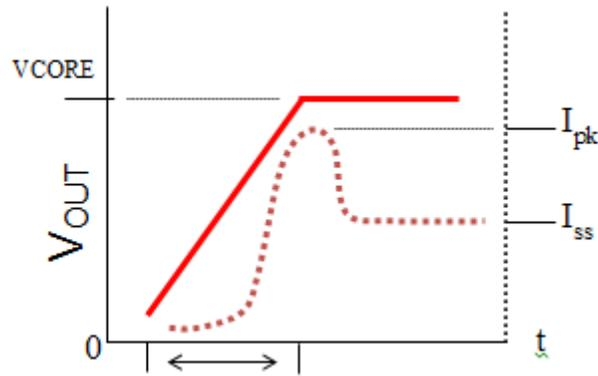

Figure 2. The Soft Start of a Voltage Regulator and Corresponding Soft-start Current (Output)
- Soft start: Soft start turns the voltage regulator on slowly to the programmed duty cycle and output voltage so that output current ramps slowly, reducing inrush current as shown in Fig.2. Inrush current could cause output-voltage overshoot and a system glitch or damaged power stage. Inrush current happens when a board's bulk capacitors are discharged and must then charge all at once when input power is present. Soft start also avoids current limits that could shut the DC/DC converter down (latch off). Soft start is usually adjustable or selectable through an external capacitor or a pin-strap setting (connecting the soft-start pin to existing voltage rails on the board).